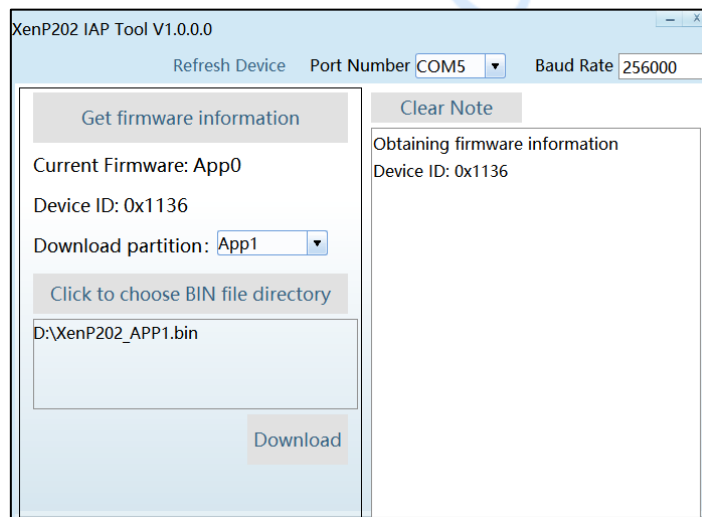

Figure 4-15 Firmware information
Step 4: Click the **Get firmware information** button, the GUI will read and display the device ID and the current firmware information of the module. XenP202TE firmware can run in either partition APP0 or APP1, while it is running in partition APP0, the download partition should be APP1, and vice versa, an example is shown in Figure 4-15;